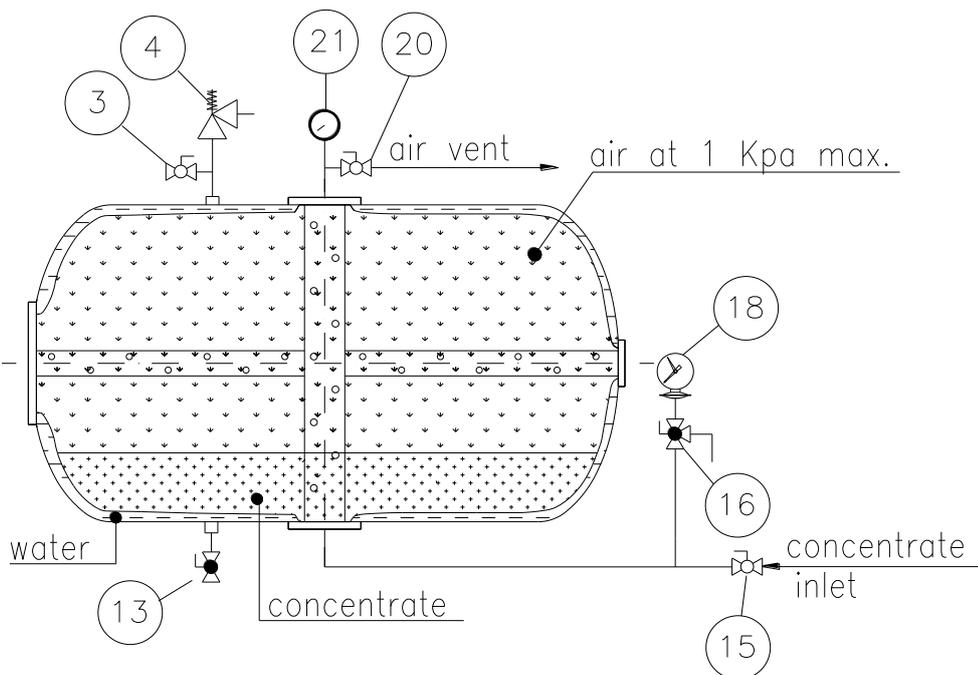

Figure a.6
8. Close the valve (13) and disconnect the pump.
9. Connect the pump to the filling valve (15) by the appropriate hose.
11. Open the valve (15) and pump the liquid into the tank, always making sure that the pressure is discharged through the valve (20) so as to maintain a maximum pressure of 1 kPa checking the pressure gauge (21) (figure a.6, a.7).